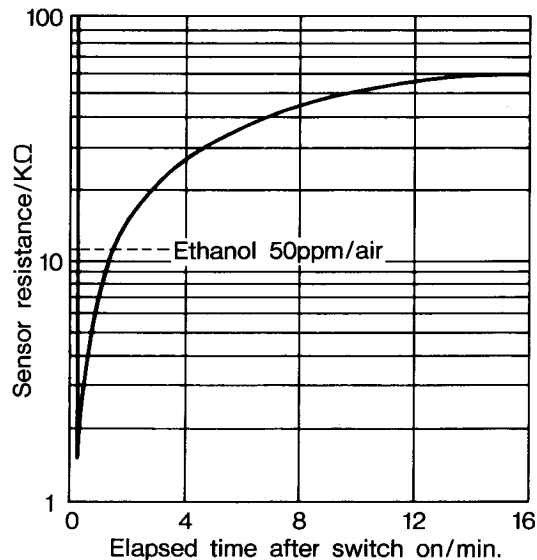
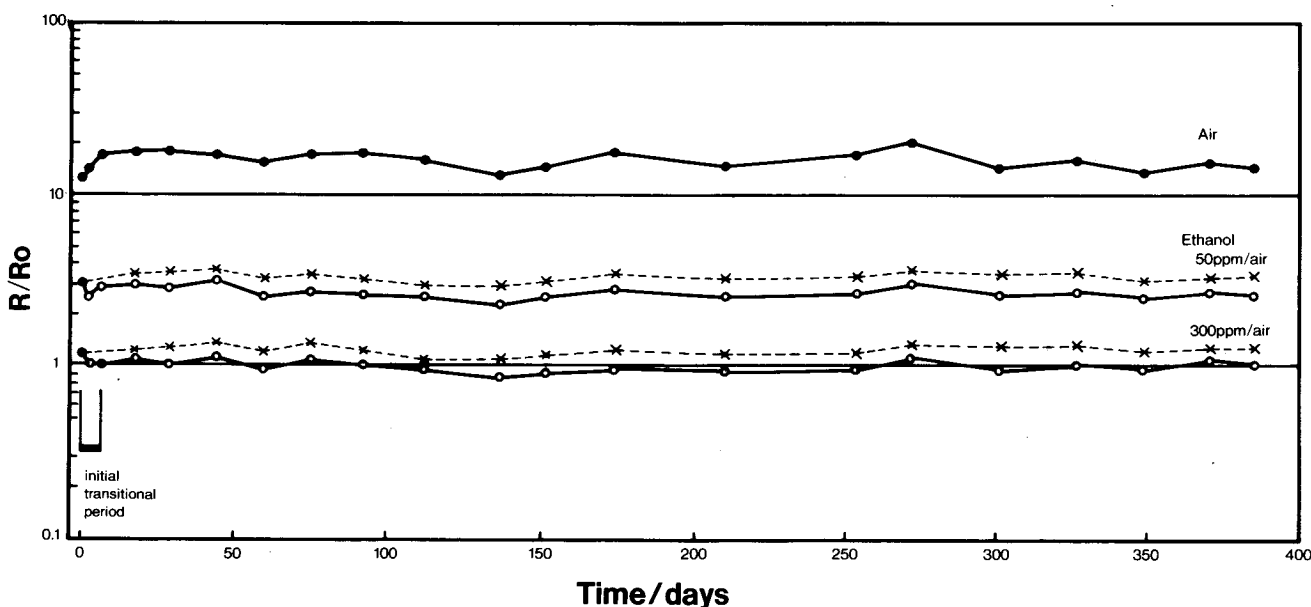

Fig. 7. Initial action of the TGS 822
Fig. 8. Stability
An example of the initial action in clean air is shown in Fig.7. The time required until the sensor resistance in air exceeds the resistance in 50ppm ethanol would be just under two minutes, in case the sensor has been stored without energizing for one month. This time is variable depending on atmospheric conditions during the storage of an unenergized sensor, and, generally, increases the longer the storage period is.
The sensitivity of the TGS822 is very stable over a long period in continuous or intermittent operation as shown in Fig.8. In the case of continuous operation, the TGS822 requires a certain period to reach a stable sensitivity after switch on. This initial transitional period depends on a storage period, but doesn't exceed seven days. Such excellent stability is one of the most advantageous features of the TGS822.
2. All the sensor characteristics in this catalog except Fig.7 and a part of Fig.8 are measured when the sensor is fully stabilized after the transitional period.